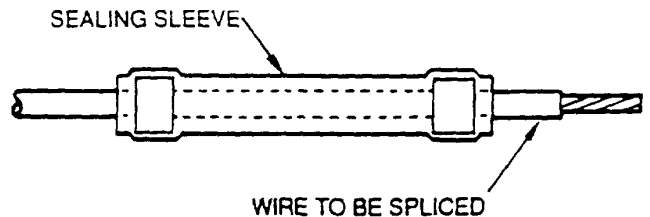

Figure 64. Sealing Sleeve Placed on Wire End
71. **GENERAL DESCRIPTION.** This tool is considered to be the upper range adjustable crimp tool, with virtually limitless application within the 12 to 26 AWG wire range. The tool measures 9 3/4 inches X 2 1/2 inches X 1 1/4 inches and weighs 15 ounces (Figure 64).